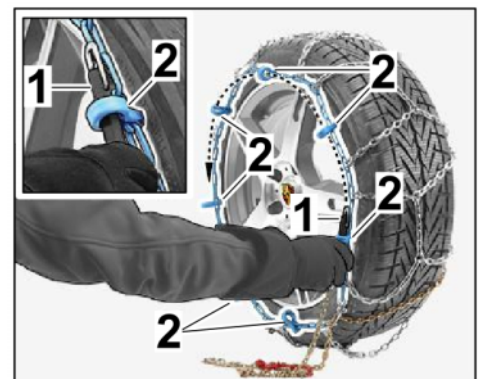

Figure 10
2.3.2 Feed bungee cord with hook through the plastic eyelet (⇒ *Figure 10*).
2.3.3 Feed the rest of the tensioning chain in a circle (⇒ *Figure 10-Arrow-*) over the complete wheel through the remaining plastic eyelets.